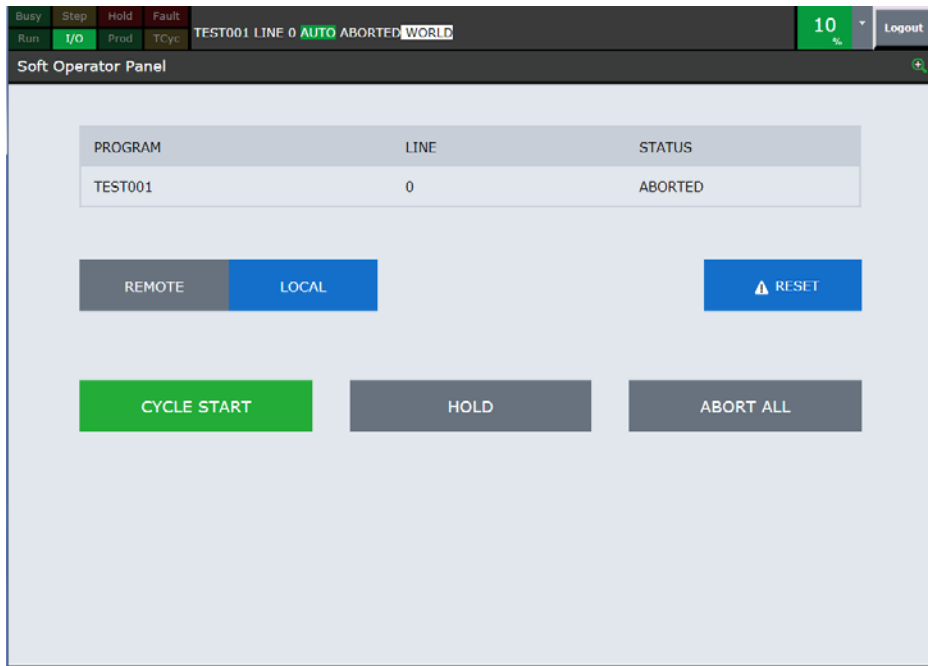

Fig. 9.22.3 (b) Soft Operator Panel Screen
- 3 In the Address field of the browser, input “http://<Robot IP Address>” to open the robot Homepage. If the connection is successfully made, you will briefly see the robot homepage, similar to that shown in Fig. 9.22.3(a), displayed on the PC.